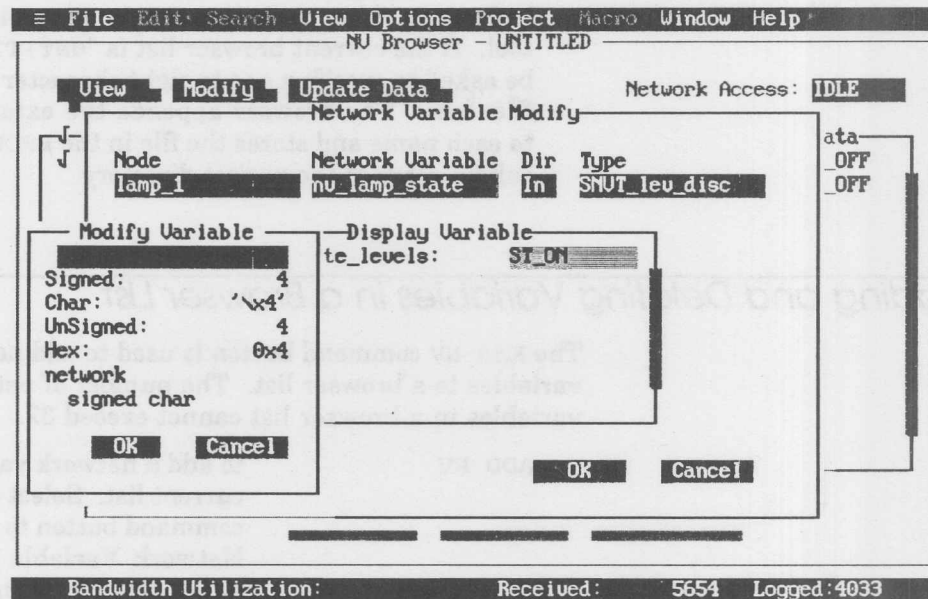

Figure 13-6. NV Browser Window and Modify Variable dialog box
- 6 Select the **MODIFY** command button to open the Network Variable Modify window and access node, variable, direction, and type information (see figure 13-6).
- 7 To change the specified network variable, select the data value or type into this field to open the Modify Variable dialog box (see figure 13-6) The dialog box contains type information and alternate display types, for example: char, hex. (A SNVT enum type variable is displayed with the appropriate enum identifier, if one exists.)